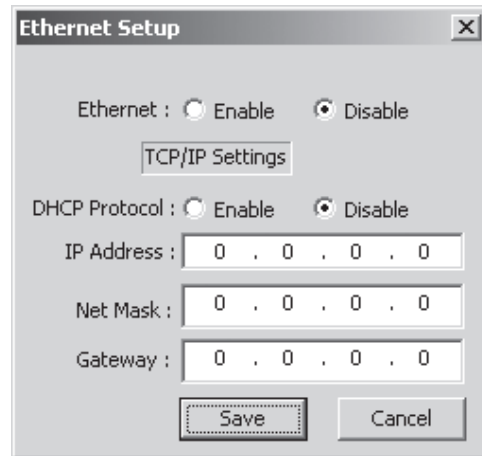

Figure 4-12 Ethernet Setup Screen
1. From the ISScom Main Screen menu select **Tools/System Ethernet Setup**. ISScom will display the Ethernet Setup screen (Figure 4-12).